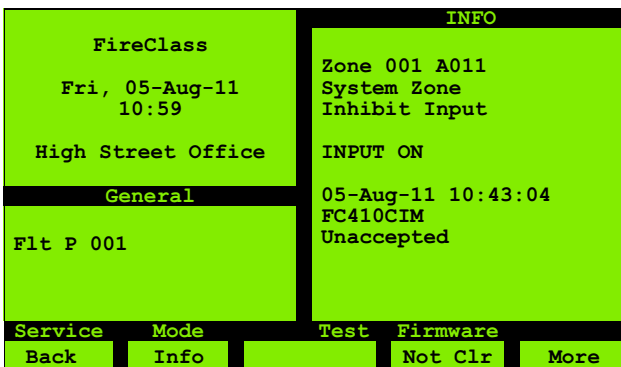

Fig. 5: A Log Input Message
- The LCD backlight activates and the type of screen shown in Figure 5 is displayed. The Operator Window will show an information message.
The format of the Log Input message in Figure 5 is as follows: